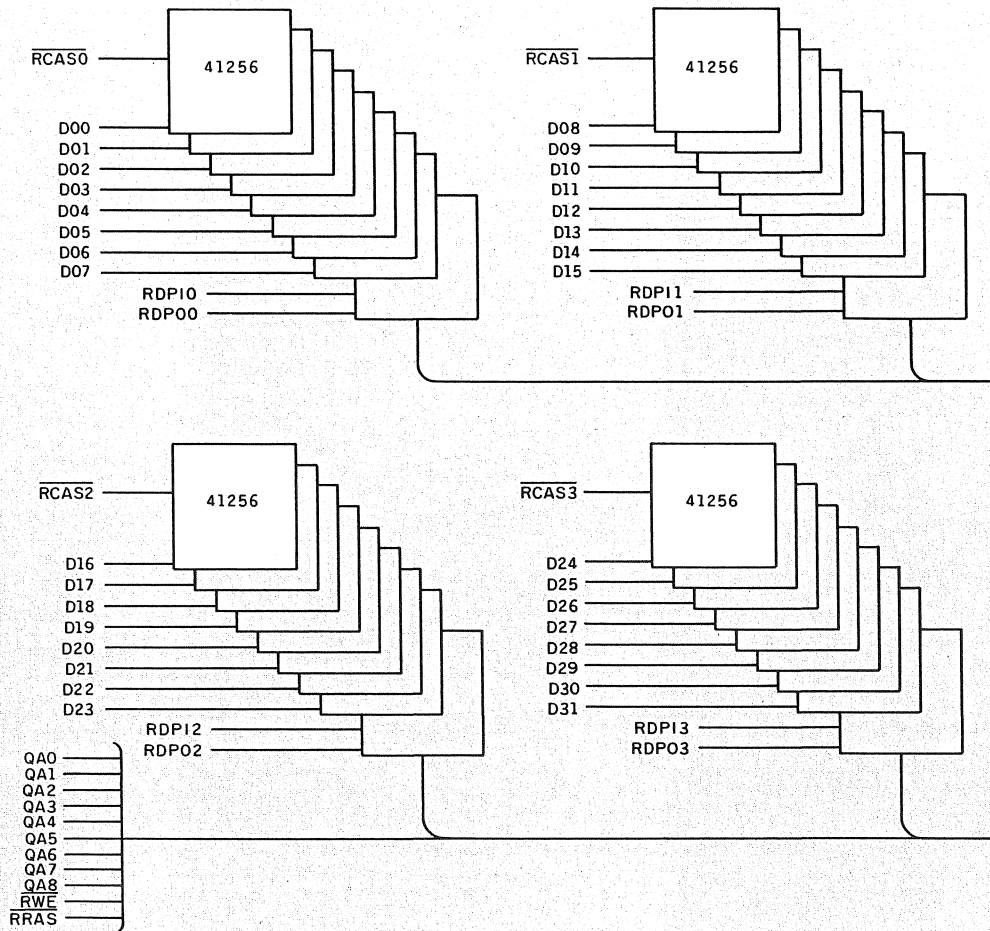

Figure 6: Memory array.
A delay line and associated headers delay the CPU's address strobe (AS) signal long enough for all the decoding to have been completed before the RASIN signal is generated to initiate the DP8409 dynamic RAM controller's access cycle. The DP8409 (figure 5) directly drives the multiplexed address and $\overline{\text{RAS}}$ lines of the RAMs. The $\overline{\text{CAS}}$ signal is multiplexed with the Byte Enable signals before being applied to the RAM array, shown in figure 6. The refresh counter is driven from the CPU's clock oscillator, divided by 128. The DP8409 attempts to do a hidden refresh, but if this is not possible, a refresh request (RFIO) will be sent to the HOLD20 PAL every 10.24 microseconds. When this is acknowledged (with RFSHACK) the DP8409 will perform a $\overline{\text{RAS}}$ ONLY refresh cycle.